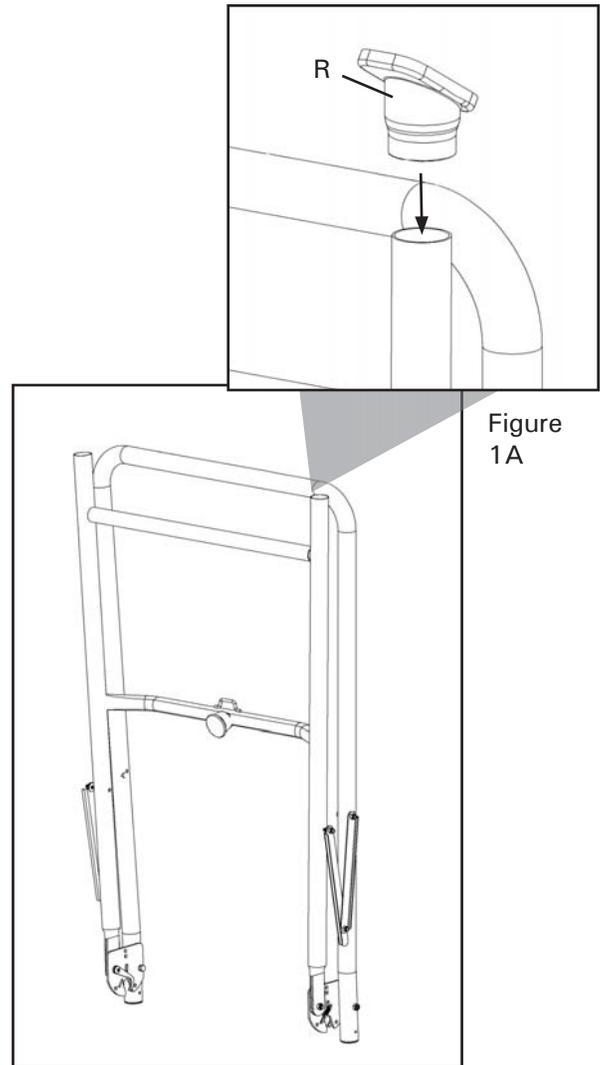

Figure 1
- Set the A-Frame so the base points up (Figure 1). This will give you downward leverage to properly assemble the Stability Feet. Steady both sides of the A-frame so the legs do not swing open.